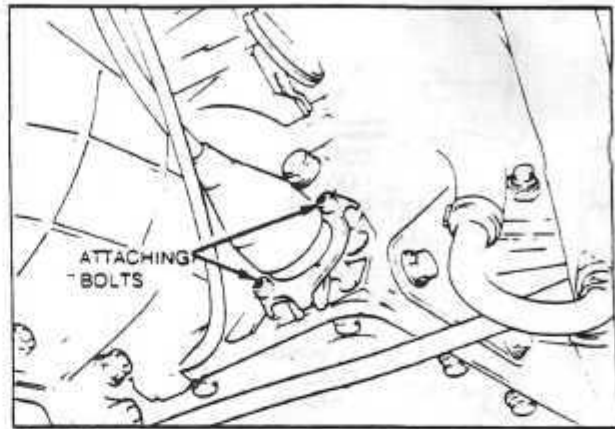

Fig. 30 MULTIPLE SWITCH REMOVAL
6. Remove the bolts securing the multiple switch and remove the switch. Fig. 30